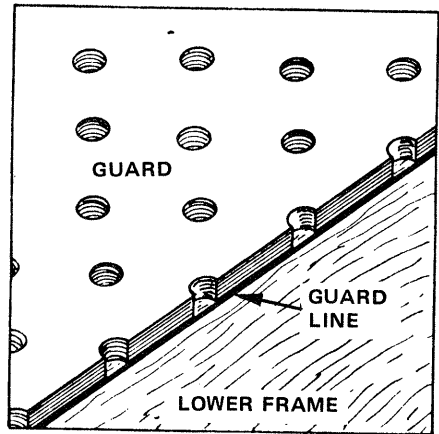

FIGURE 8-12 Align the Guards to the "Guard Line."
Align the Guards to the "Guard Line" and to the ends of the Lower Frame as shown in FIGURE 8-12, then drill pilot holes 1/2" deep with a 1/16" drill bit near the ends and center of each Guard (use any of the perforations in these locations as guides), then mount the Guards with the six (6) #6 x 1/2" Wood Screws.